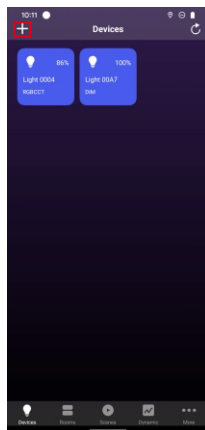
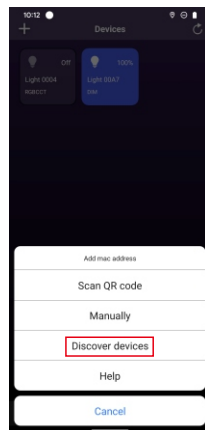
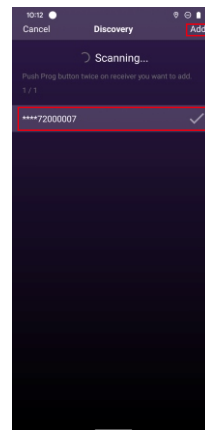

Figure 1
Figure 2
Figure 3
4. Run Easythings APP, on the “Devices” page tap add button “**+**” on the APP to add device, then choose “**Discover devices**” to discover device, then **short press the “Prog” button on the sensor twice** (or **reset power of the sensor twice continuously**) to set the device into pairing to APP mode. (As shown in **Figure 1 & Figure 2 & Figure 3**)
5. Once the sensor/sensors are discovered, tick the sensor/sensors and tap “**Add**” button, the sensor/sensors will be added successfully. (as shown in **Figure 3**)